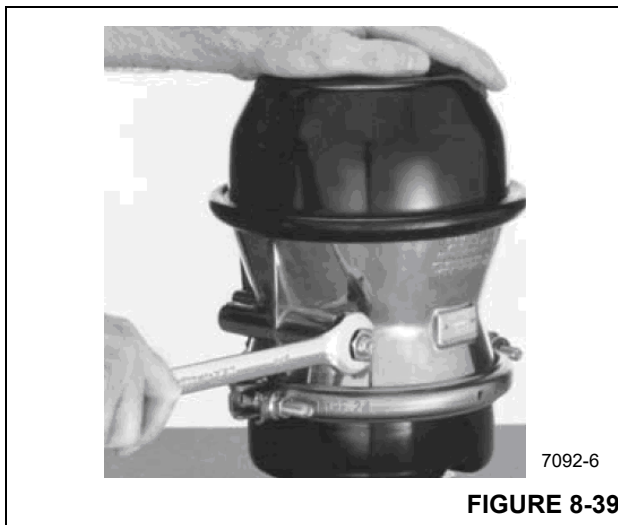

FIGURE 8-39
10. When re-installing the release-bolt, flatwasher and release-nut into the storage pocket, apply 13.5 Nm (10 lb-ft) torque on nut against the flatwasher (Figure 8-39).